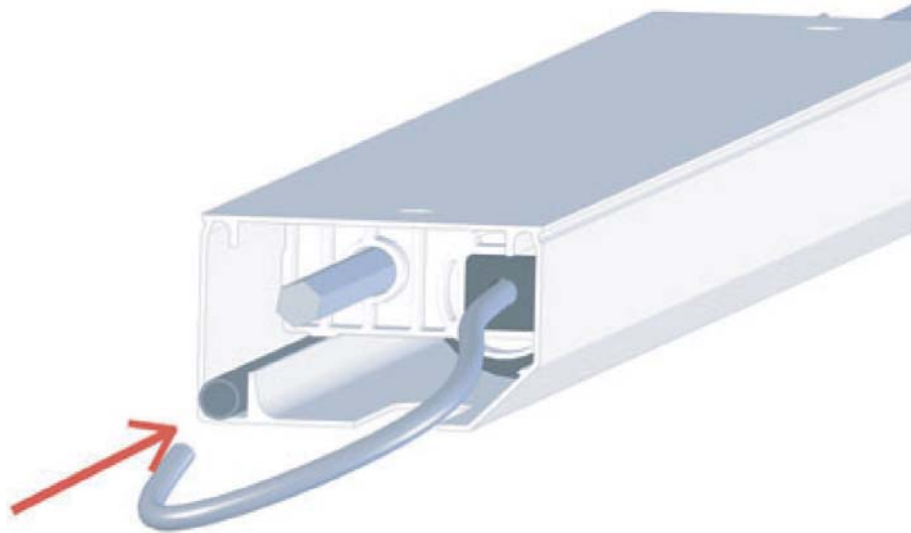

Fig. 13
- pass the cable through the specific PVC tube (see image Fig. 13).